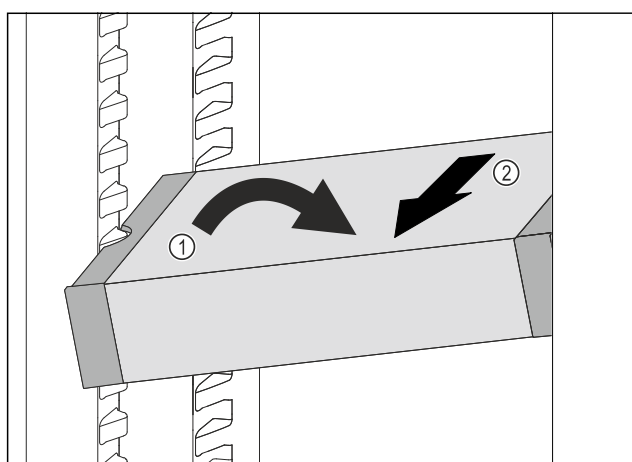

Fig. 94
- Set VarioSafe in refrigerator compartment at an angle. Fig. 94 (1)
- Take VarioSafe out to the front. Fig. 94 (2)